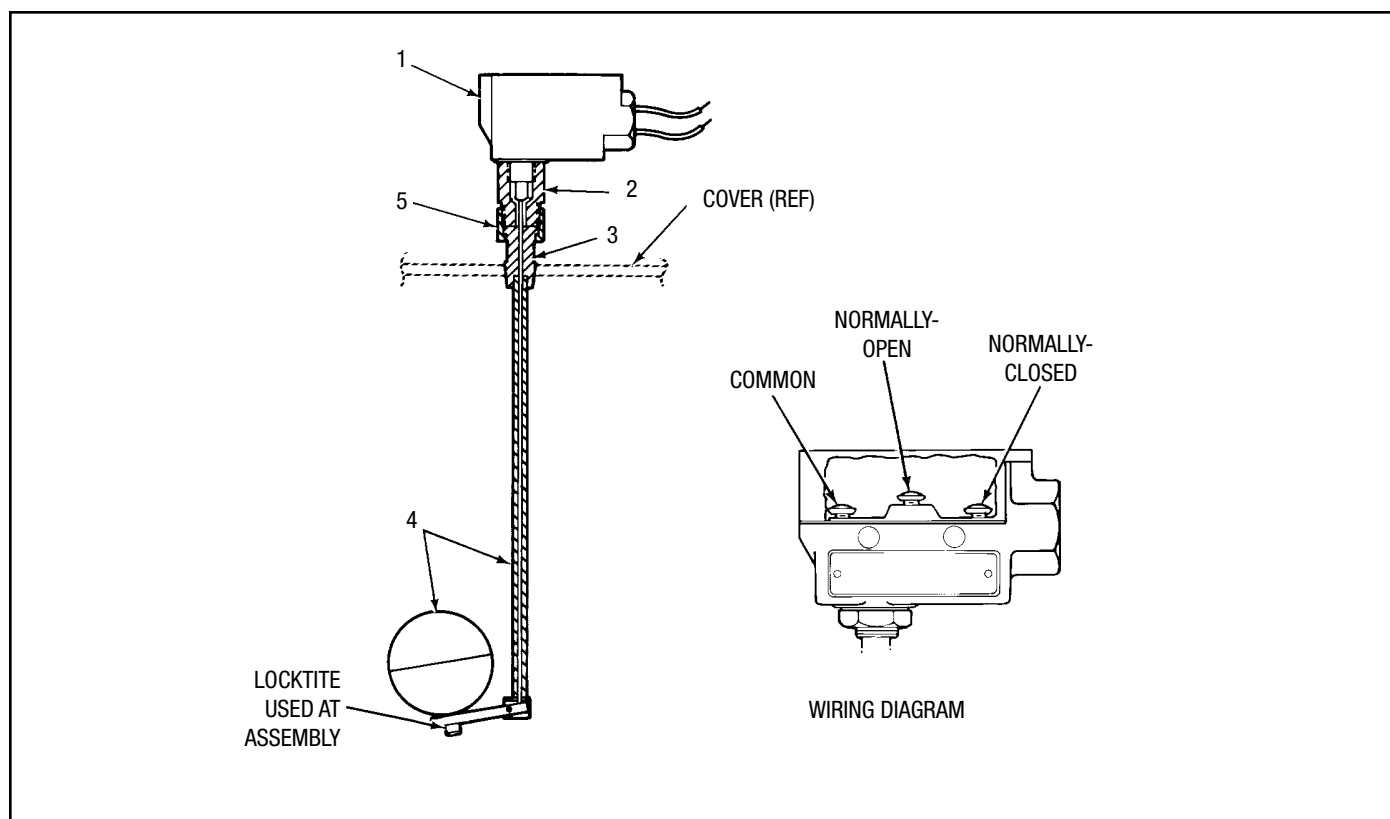

Figure 5-1. Oil Reservoir 15 Amp Low-Level Assembly
5.3.1 General. Maintenance tips, disassembly and assembly procedures for low-level options LOA and LOB are discussed in Paragraphs 5.3.2, 5.3.3 and 5.3.4. A typical low-level assembly is shown in Figure 5-1 and should be referred to during this discussion.
- c. Unscrew union nut (5, Figure 5-1) from switch adapter (2).
- d. Unscrew switch adapter (2) from switch (1).
5.3.5 Oil Reservoir 15 Amp Low-Level Assemblies Parts List. Table 5-2 identifies the parts indexed in Figure 5-1.